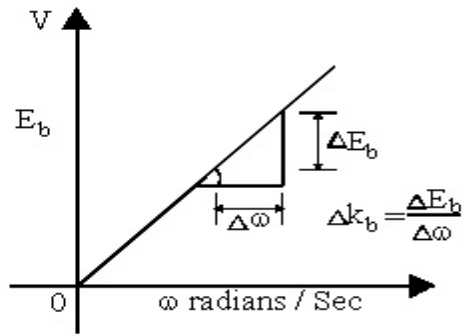

Figure 3
1. Connect VPET -300(A) module, armature output A and AA to motor Armature terminal A and AA respectively.
2. Connect VPET -300(A) module, field output F and FF to motor Field terminal F and FF respectively.
6. Plot the graph E_b versus T, model graph is as shown in Fig.3 and calculate the back emf.